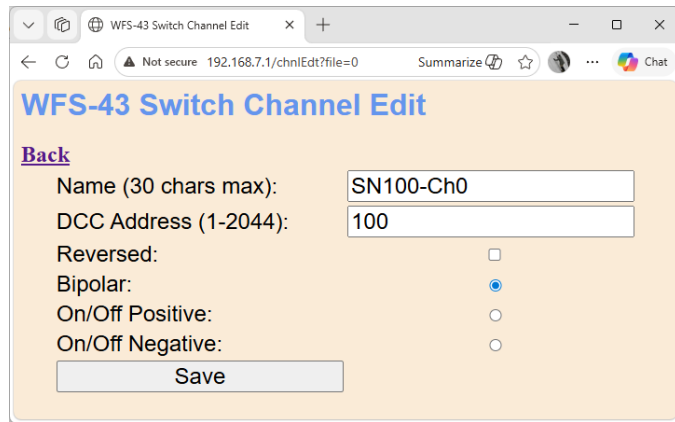
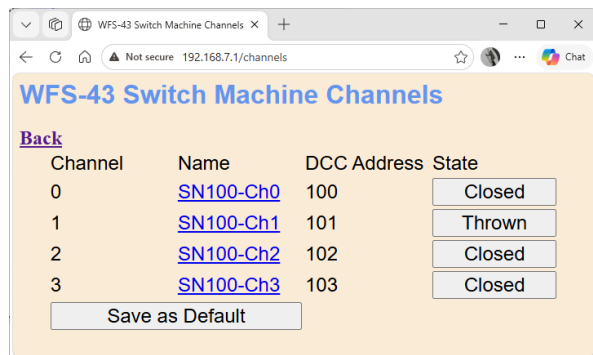

Figure 4 The Switch Machine Channel Edit Screen
Figure 9. Control of Turnouts using WFS-43 Web Pages before WFS-43 joins home net
You can use more than one WFS-43 on your layout and connect each one to the same DCC signal. However, each channel on your collection of WFS-43 Switch Machine Controllers must have a unique DCC Address. You can set this by accessing the WFS-43 Switch Machine Channels screen as in Figure 9 and clicking on the Name hyperlink to show the Switch Channel Edit screen as Figure 4.
(3) To test the switch machine channels, click or tap the Switch Machine Channels option. You will see the screen below. The names of each channel default to the last three digits of the serial number plus the channel number as shown in Figure 9. The DCC Addresses are important once you connect a DCC input or use a WFD-60 as they are used for identification. DCC Addresses in WFS-series modules should be unique across your layout.